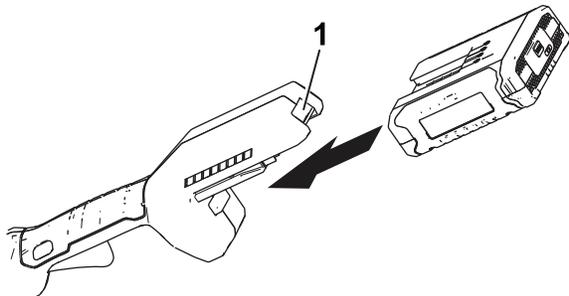

Figure 7
2. Aligned the notch of the battery on the tongue of the handle (Figure 7).
3. Push the battery into the handle until it clicks into the lock (Figure 7).